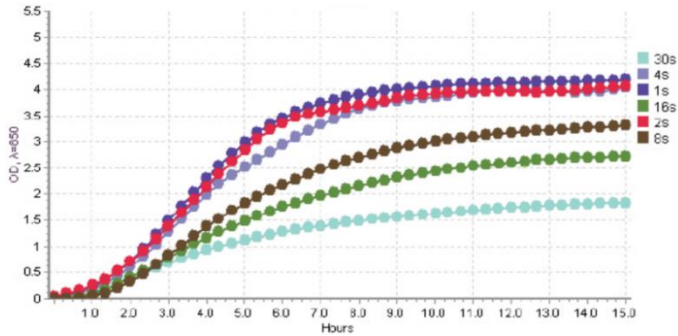
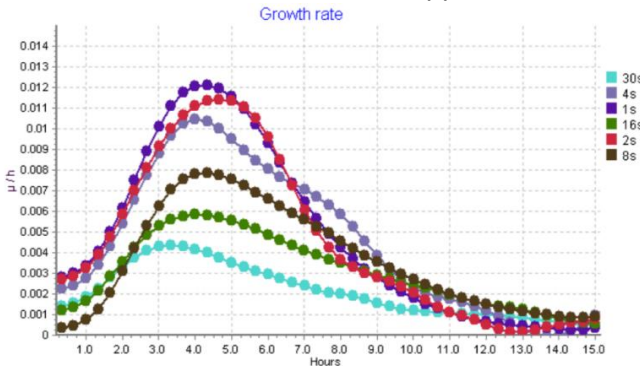

Figure 5. Influence of Interval of Reverse Spinning on the Growth kinetics ($\Delta OD_{\lambda=850nm}/\Delta t$) vs Time of fermentation (h).
Figure 6. Influence of Interval of Reverse Spinning on the Growth kinetics ($\Delta OD_{\lambda=850nm}/\Delta t$) vs Time of fermentation (h).
It is known that aeration affects the growth and growth rate of aerobic microorganisms. The reverse spin interval affects the rate of oxygen uptake in the bioreactor. Results obtained indicate that the maximum rate of cell division is detected at an interval of 1 Reverse Spin per second (1 s^{-1}) at a speed of 2000 rpm. The increase of pause between reverse spins reduces cell growth rate, reaching 50% of the maximum value, when RS interval is 30 s^{-1} (see fig. 5. and fig. 6.).
8.2.1. Legend of experiment (fig. 5.): Personal Bioreactor RTS-1 / RTS-1C was used with 850 nm LED, volume of LB media in 50 ml Falcon tube was 15 ml, Reverse Spin Interval 1, 2, 4, 8, 16, 30 s^{-1} , measurement frequency (MF) is 10 min^{-1} , reactor rotation speed 2000 rpm, temperature 37°C , diameter of filter pores (for aeration) $0.25\text{ }\mu\text{m}$.